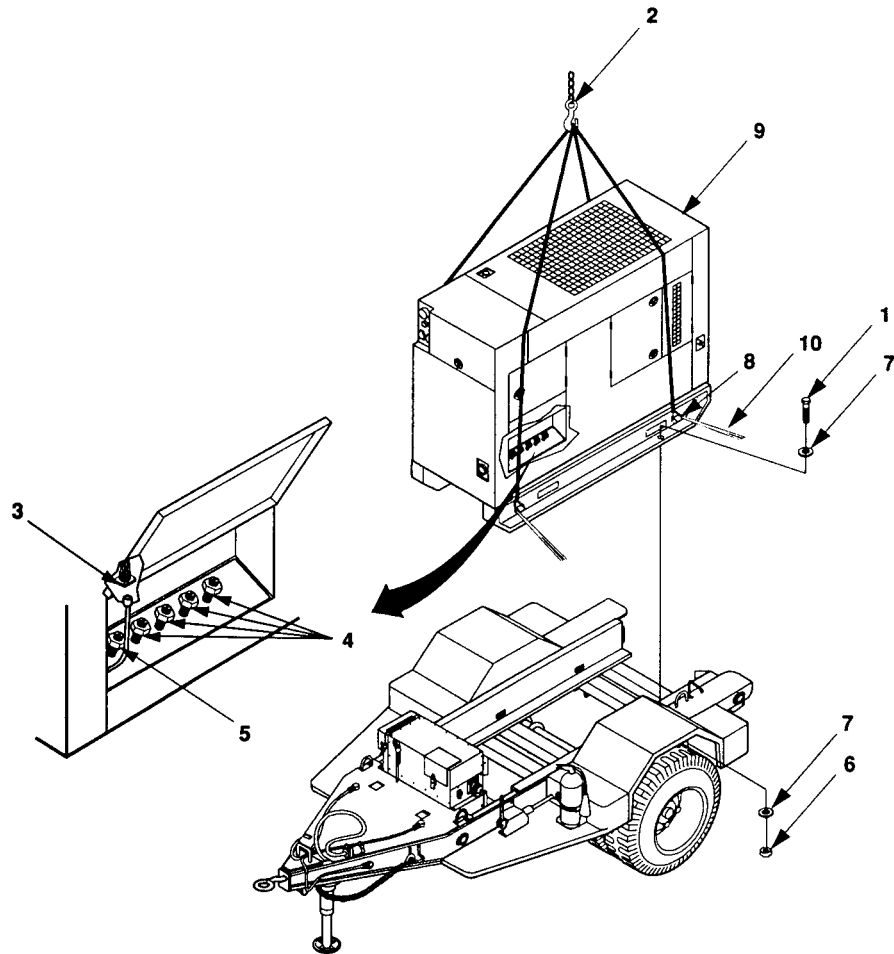

Figure 5-10. Generator Set Removal
1. When removing the generator set from unit A of the power plant, disconnect P1 (3, Figure 5-10) from generator set.
2. Loosen GND terminal of generator set and disconnect ground cable (5) from the generator set.
3. Remove the four screws (1), eight flat washers (7), and four self-locking nuts (6) securing the generator set to the trailer.
4. Insert ropes (10) through each of four Ming rings (8) on the generator set as shown in figure 5-10.
5. With one person at each rope (10) to steady and guide generator set (9), lift generator set.
1. Attach lifting equipment (2) with a minimum lifting capacity of 6000 lb as shown in figure 5-10.
2. Insert rope (10) through four lifting rings (8) on generator set (9).
3. With one person at each rope (10) to steady and guide the generator set (9), lift the generator set.
5. Install four screws (1), eight flat washers (7), and four new self-locking nuts (6) that secure generator set (9).
6. Disconnect lifting equipment (2).
7. Route ground cable (5) through power cable sock on front of generator set (9).
8. Connect ground cable (5) to GND terminal of generator set and tighten nut.
9. Reconnect electrical leads (4) and P1 (3) to generator set when installing generator set on unit A